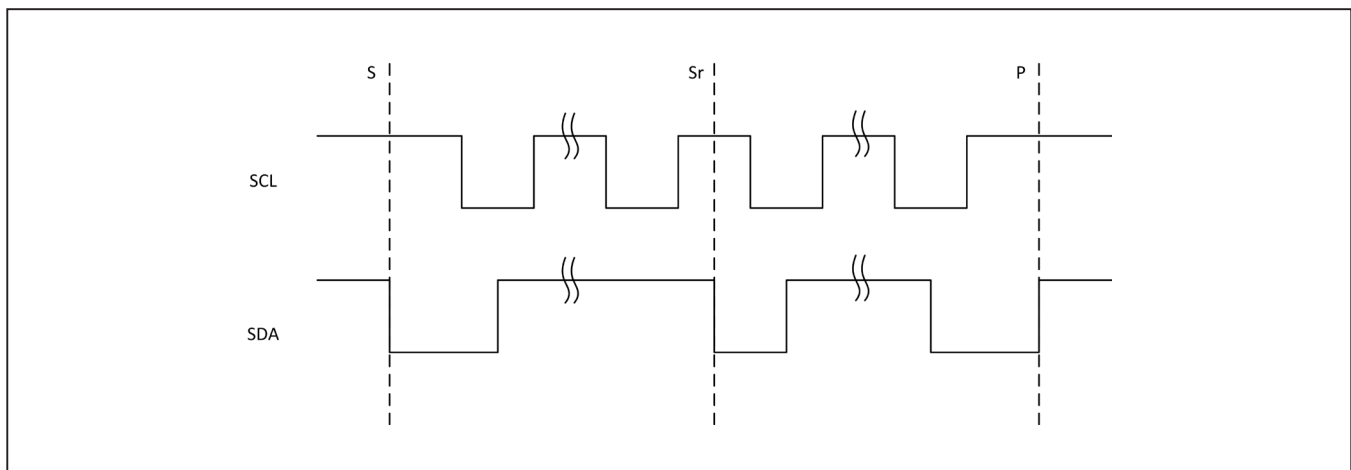

Figure 30. START, STOP, and REPEATED START Conditions
The MAX98372 features an I2C 2-wire serial interface consisting of a serial data line (SDA) and a serial clock line (SCL). SDA and SCL facilitate communication between the IC and the master at clock rates up to 400kHz. Figure 30 shows the 2-wire interface timing diagram. The master generates SCL and initiates data transfer on the bus. The master device writes data to the IC by transmitting the proper slave address followed by the register address and then the data word. Each transmit sequence is framed by a START (S) or REPEATED START (Sr) condition and a STOP (P) condition. Each word transmitted to the IC is 8 bits long and is followed by an acknowledge clock pulse. A master reading data from the IC transmits the proper slave address followed by a series of nine SCL pulses. The IC transmits data on SDA in sync with the master-
SDA and SCL idle high when the bus is not in use. A master initiates communication by issuing a START condition. A START condition is a high-to-low transition on SDA with CL high. A STOP condition is a low-to-high transition on SDA while SCL is high (Figure 30). A START condition from the master signals the beginning of a transmission to the IC. The master terminates transmission, and frees the bus, by issuing a STOP condition. The bus remains active if a REPEATED START condition is generated instead of a STOP condition.